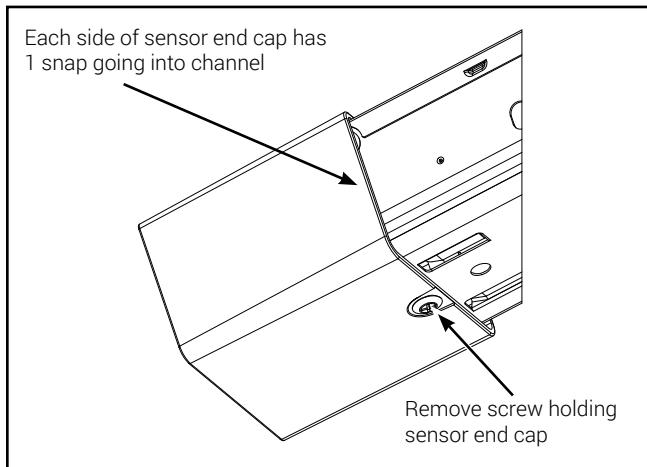

Figure 1.
1. If the fixture already has a sensor end cap installed, remove sensor endcap (Figure 1) prior to removing cover.